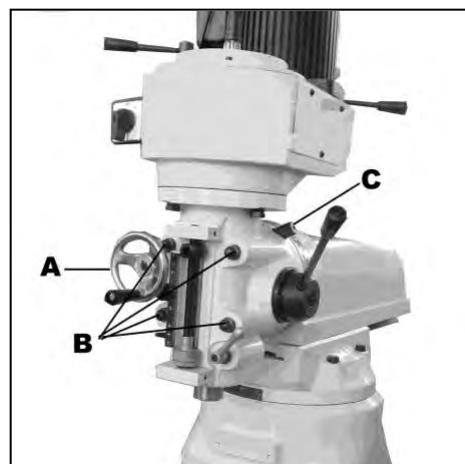

Fig.1
1. Remove handwheel (A, Fig. 1).
2. Loosen four cap nuts (B, Fig.1) $\frac{1}{2}$ turn to unlock the head. **Do not** remove these nuts unless you are prepared to remove the head.
3. Use a 19mm socket and breaker bar on adjusting nut (C, Fig. 1) to rotate the head.